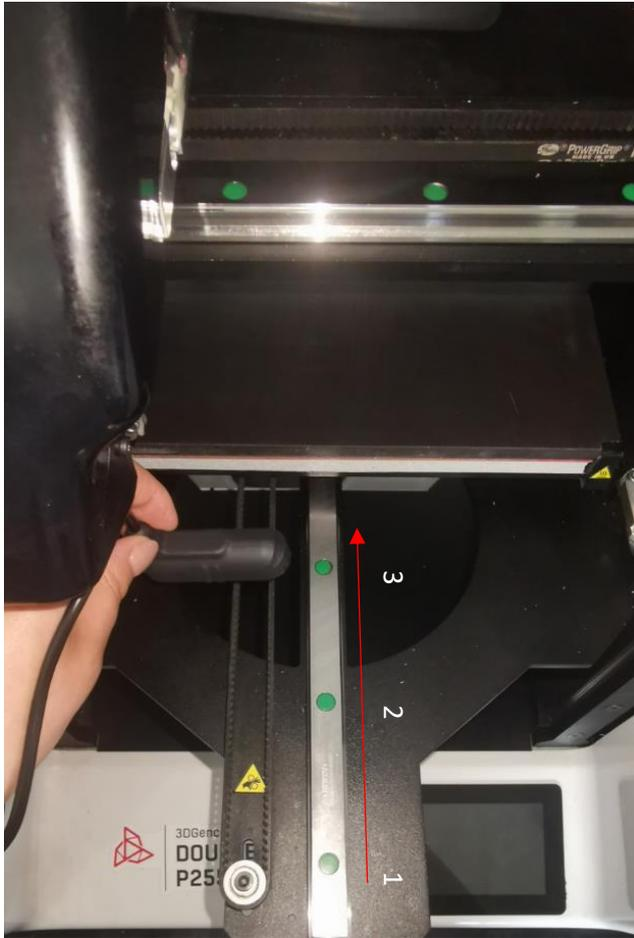

Fig.70 Measurement toothed belt on the Y axis
4. Place the microphone facing the toothed belt side at the third black mounting hole of the linear guide counting from the right side of the printer (Fig. 70).